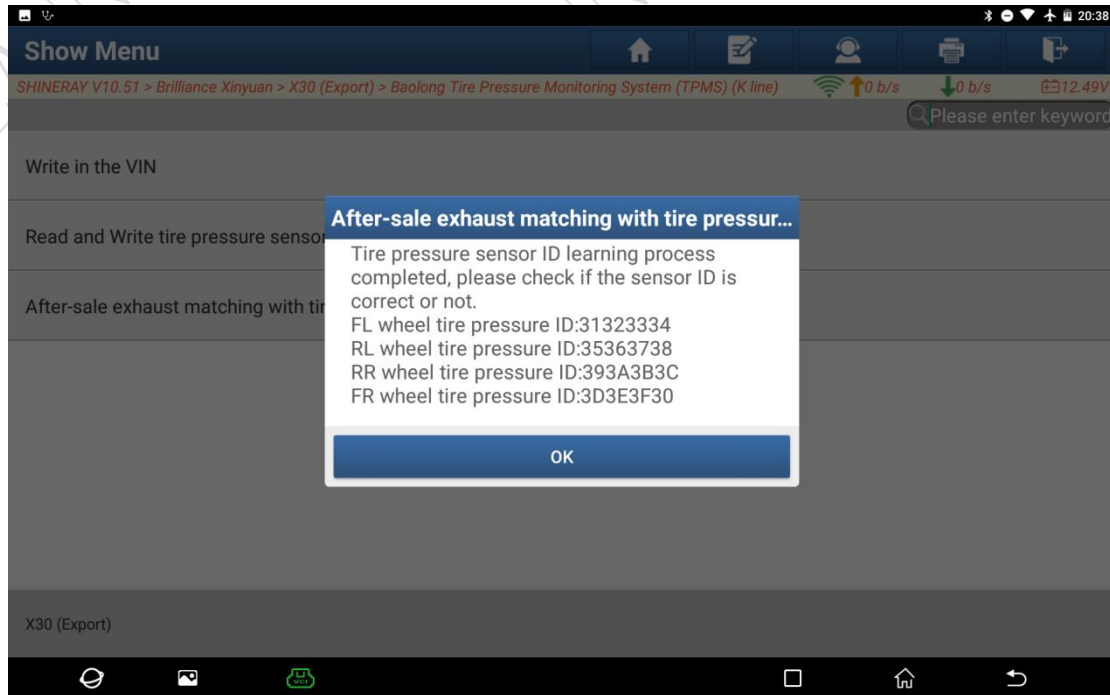

Figure 16
16. After confirming that the sensor IDs are correct, click [OK] to exit the function, as shown in Figure 16.